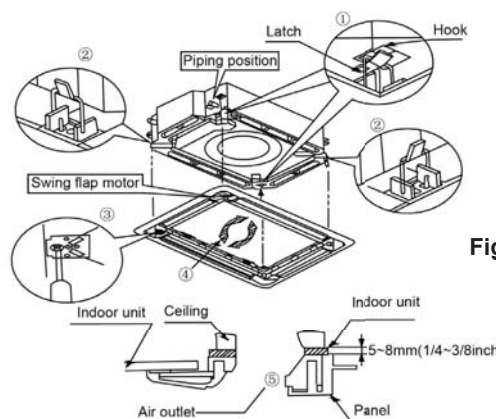

Fig.8
- (2) Place the panel at the unit, and latch the hooks beside and opposite the swing flap motor.
- (3) Latch other two hooks.
- (4) Tighten four hexagonal screws under the latches about 15mm.
- (5) Adjust the panel along the direction indicated by the arrow as shown in Fig.8.
- (6) Tighten the screws until the thickness of the sealing material between the panel and the indoor unit reduces to 5-8cm.